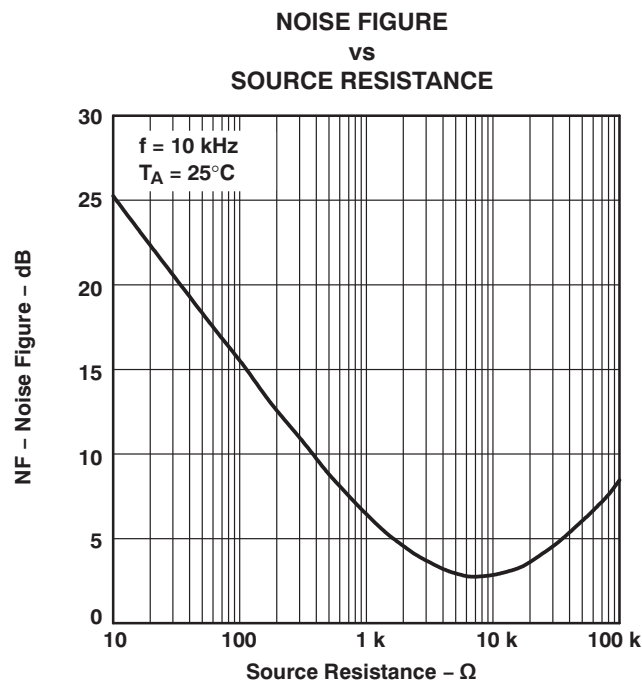
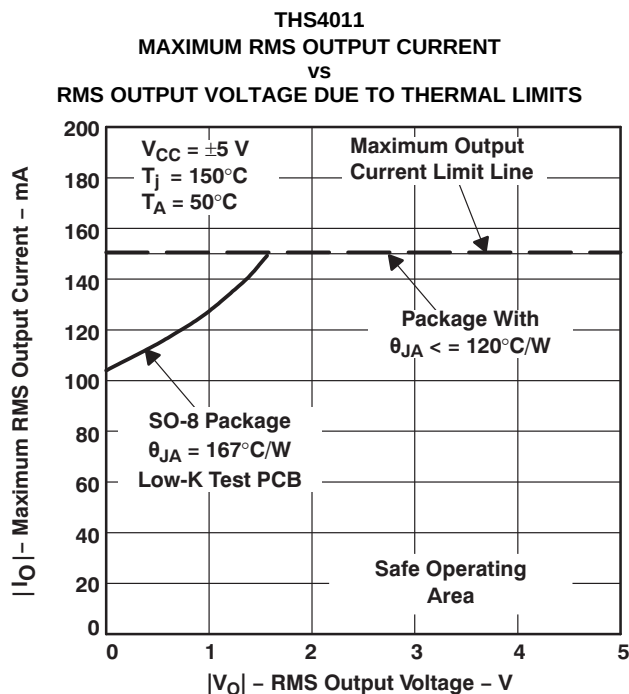
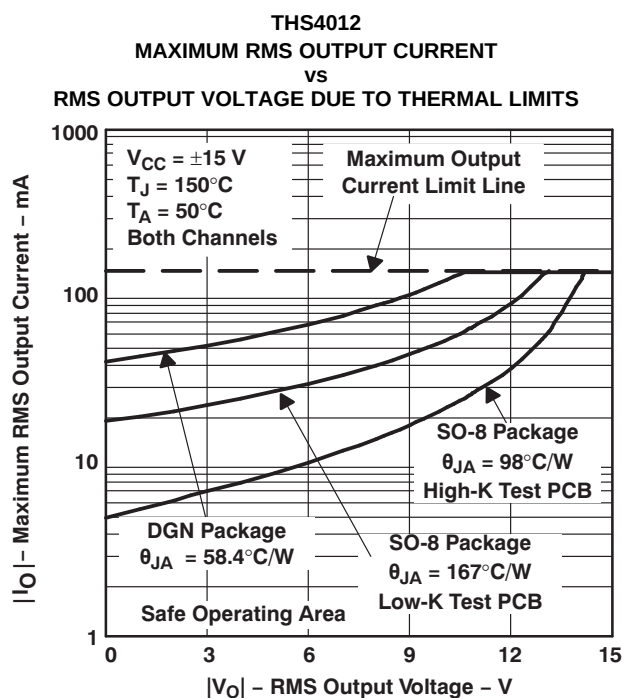
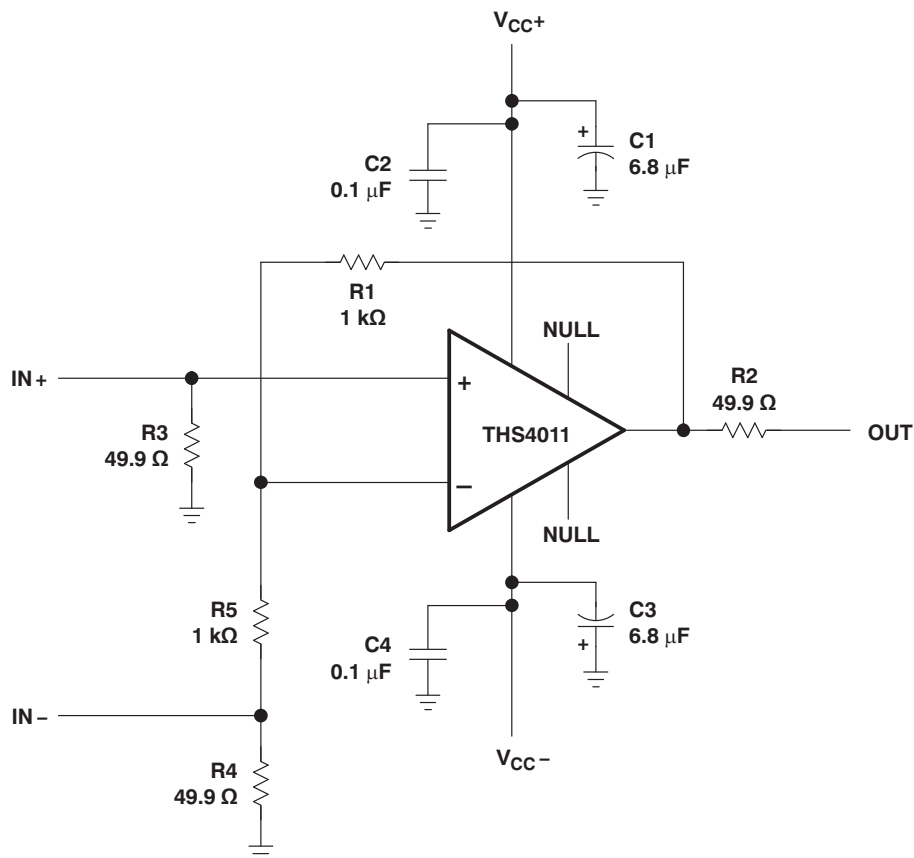

Figure 26. Noise Figure vs Source Resistance
Figure 36.
Figure 39.
Figure 40. THS4011 Evaluation Board
Figure 26 shows the NF graph for the THS401x.
The next consideration is the package constraints. The two sources of heat within an amplifier are quiescent power and output power. The designer should never forget about the quiescent heat generated within the device, especially multiple amplifier devices. Because these devices have linear output stages (Class A-B), most of the heat dissipation is at low output voltages with high output currents. Figure 36 to Figure 39 show this effect, along with the quiescent heat, with an ambient air temperature of 50°C. When using $V_{CC} = \pm 5$ V, there is generally not a heat problem, even with SOIC packages. But, when using $V_{CC} = \pm 15$ V, the SOIC package is severely limited in the amount of heat it can dissipate. The other key factor when looking at these graphs is how the devices are mounted on the PCB. The PowerPAD devices are extremely useful for heat dissipation. But, the device should always be soldered to a copper plane to fully use the heat-dissipation properties of the PowerPAD package. The SOIC package, on the other hand, is highly dependent on how it is mounted on the PCB. As more trace and copper area is placed around the device, θ_{JA} decreases and the heat dissipation capability increases. The currents and voltages shown in these graphs are for the total package. For the dual amplifier package (THS4012), the sum of the RMS output currents and voltages should be used to choose the proper package.
An evaluation board is available for the THS4011 (literature number SLOP128) and THS4012 (literature number SLOP230). This board has been configured for low parasitic capacitance in order to realize the full performance of the amplifier. A schematic of the THS4011 evaluation board is shown in Figure 40. The circuitry has been designed so that the amplifier may be used in either an inverting or noninverting configuration. For more information, refer to the *THS4011 EVM User's Guide* (literature number SLOU028) or the *THS4012 EVM User's Guide* (literature number SLOU041). To order the evaluation board, contact your local TI sales office or distributor.
- Changed Feature List item From: 0.006% Differential Gain Error To: 0.01% Differential Gain Error 1 - Replaced the HIGH SPEED FAMILY of DEVICES table with the RELATED DEVICES table 1 - Changed the Available Options table, THS4012ID MSOP Symbol From: TAIBG To: TIABZ 2 - Changed the ELECTRICAL CHARACTERISTIC table 5 - Changed the TYPICAL CHARACTERISTICS section 9 - Changed Figure 26, Noise Figure vs Source Resistance 14 - Changed Figure 36 through Figure 39 20 - Changed Figure 40, THS4011 Evaluation Board 21